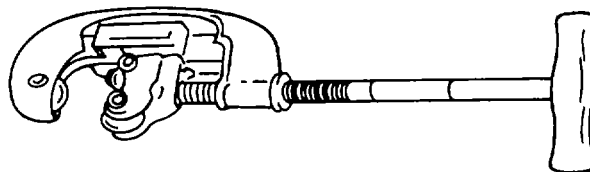

Figure 4-114. Pipe Cutters
(1) *Pipe cutters*. Pipe cutters are used to cut pipe made of steel, brass, copper, wrought iron, and lead. The two sizes of pipe cutters generally used in the Army have capacities of 1/8 to 2 inches, and 2 to 4 inches. A typical pipe cutter is shown in figure 4-114.